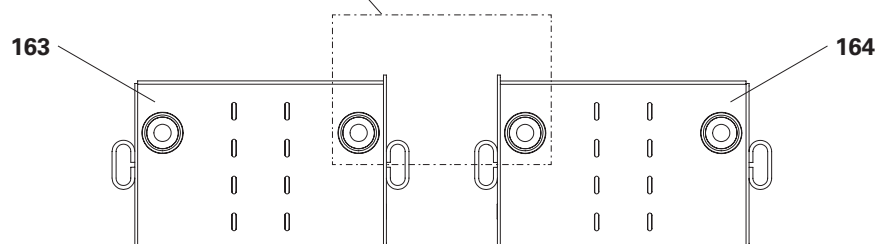

Fig. A3.14
- The end plates (163.1 + 164.1) of the two tie tubes (163 + 164) must point towards or away from each other. (Fig. A3.14)